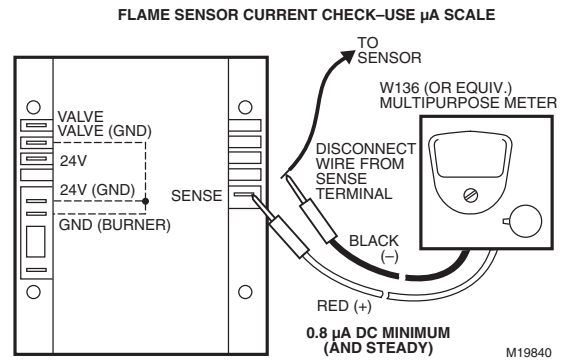

Fig. 6. S89 flame current measurement.
1. Connect a meter, set to the dc microammeter scale, in series with the flame sensor as shown in Fig. 6. Use the Honeywell W136 Test Meter or equivalent. Connect the meter as follows: